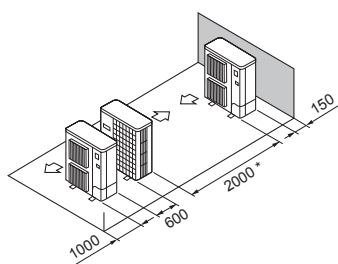

Fig. 2-17
- (5) Single parallel unit arrangement (Fig. 2-17)